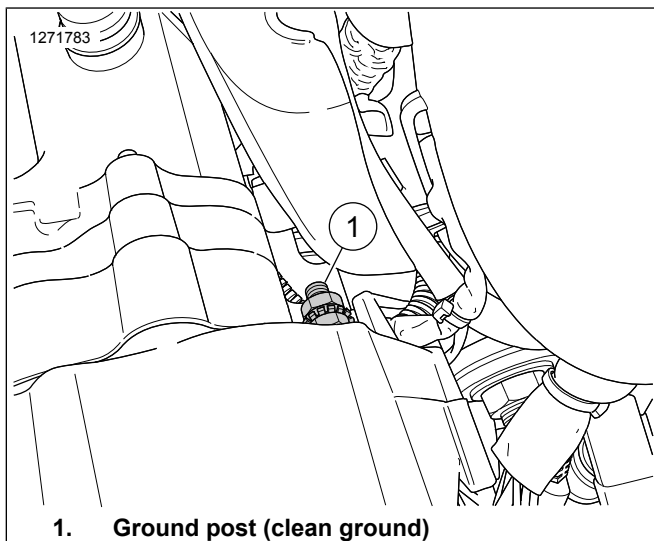

Figure 49. Sportster Ground
See Figure 49. Ground post (1) is located behind the primary cover on left crankcase half.